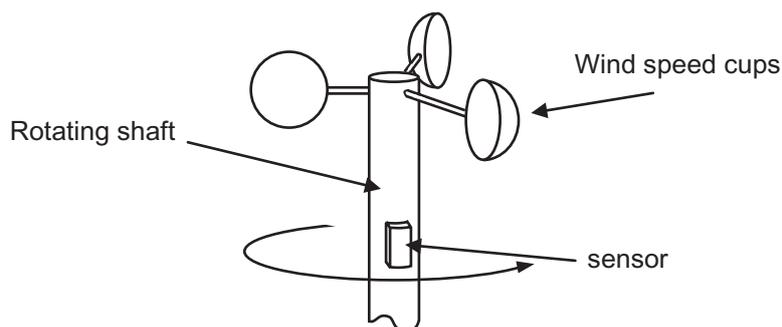

Fig. 1(d)
- fulfil a method of connecting the sensor to additional circuitry to provide a voltage or logic signal each time the shaft in **Fig. 1(d)** rotates;